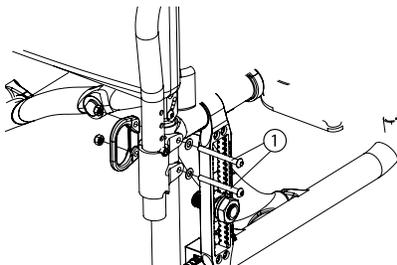

Fig. 19
- Remove the two bolts (1) (Fig. 19).